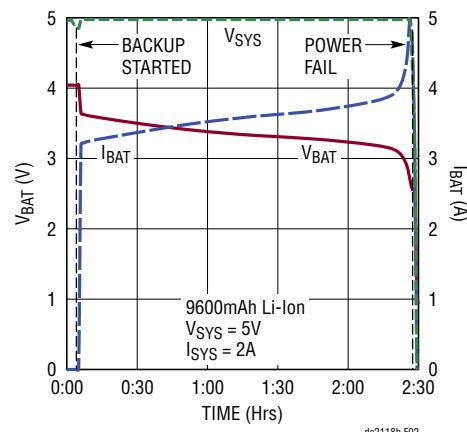

Figure 2. Typical Battery Discharge Cycle
Demonstration circuit 2118B is easy to set up to evaluate the performance of LTC4040. Refer to Figure 2 for proper measurement equipment setup and follow the procedure below.
11. Total backup runtime is based on battery capacity, circuit efficiency, and system load. Figure 2 shows an example discharge curve with constant current system load.